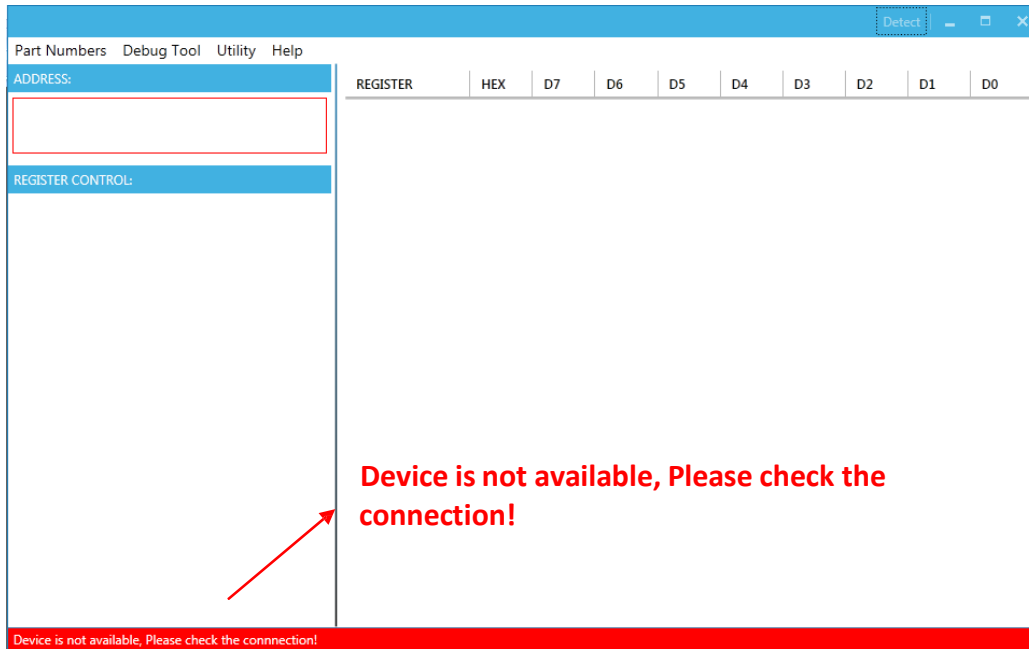

Figure 9: Warning Indicates Unsuccessful Connection – USB I²C Communication Interface Not Connected
- “Device is not available, Please check the connection!” This means that the USB I²C communication interface is not connected (see Figure 9).
The screenshot shows the same software window as Figure 9, but now displaying a table of I²C register values. The 'ADDRESS:' field contains '60'. The 'REGISTER CONTROL:' section has 'ILIM' and 'REGISTER MAP' selected. The table on the right is populated with the following data: